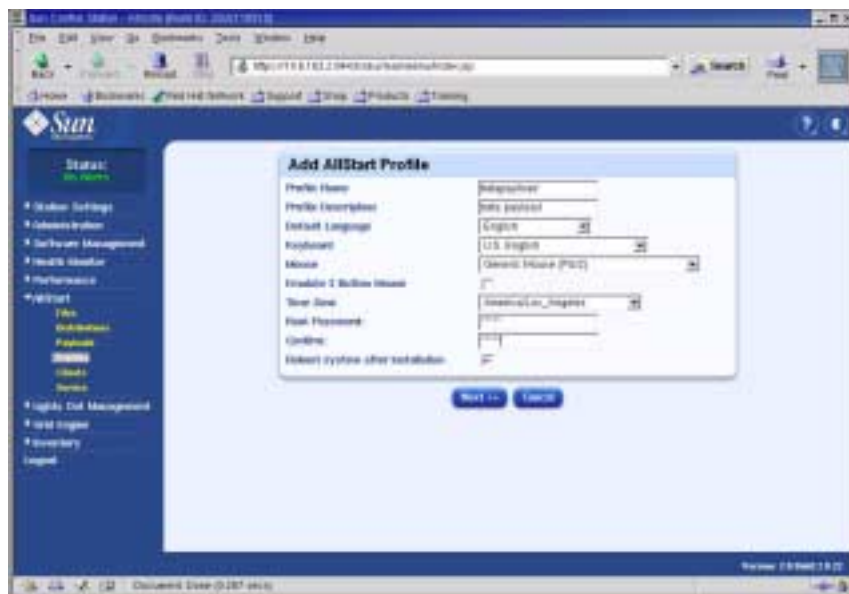

FIGURE 2-9 Add AllStart Profile Window
- a. In the Add AllStart Profile window, select the settings that are appropriate for your site (see FIGURE 2-9 for an example). Click Next when you are finished.**